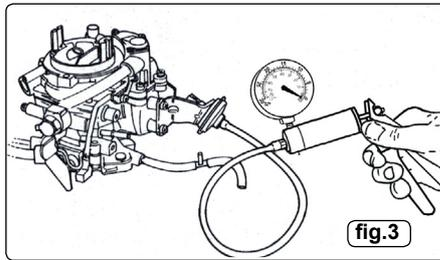

fig.3
5.4.1.2. Testing a Choke Break Diaphragm. With the engine at normal operating temperature but not running, disconnect the vacuum line to the diaphragm module. Connect the vacuum tester (fig.3) and apply approximately 15inHg of vacuum and wait for 30 seconds. No drop in gauge reading should be observed. With the vacuum still applied ensure that the choke butterfly is pulled to the fully open position.